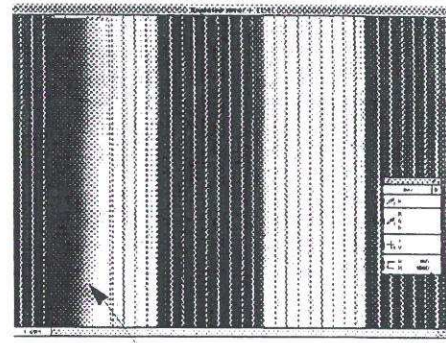

Fig. 3
- 13 • Enlarge the area on the x-axis by a factor of 10 (fig. 3).